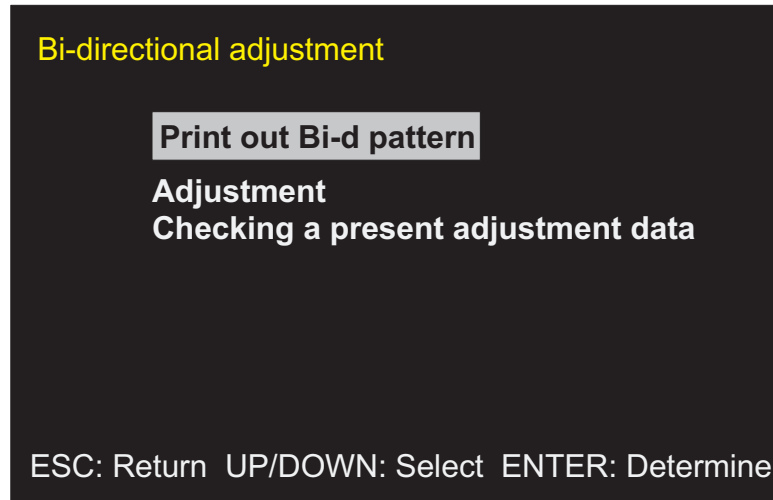
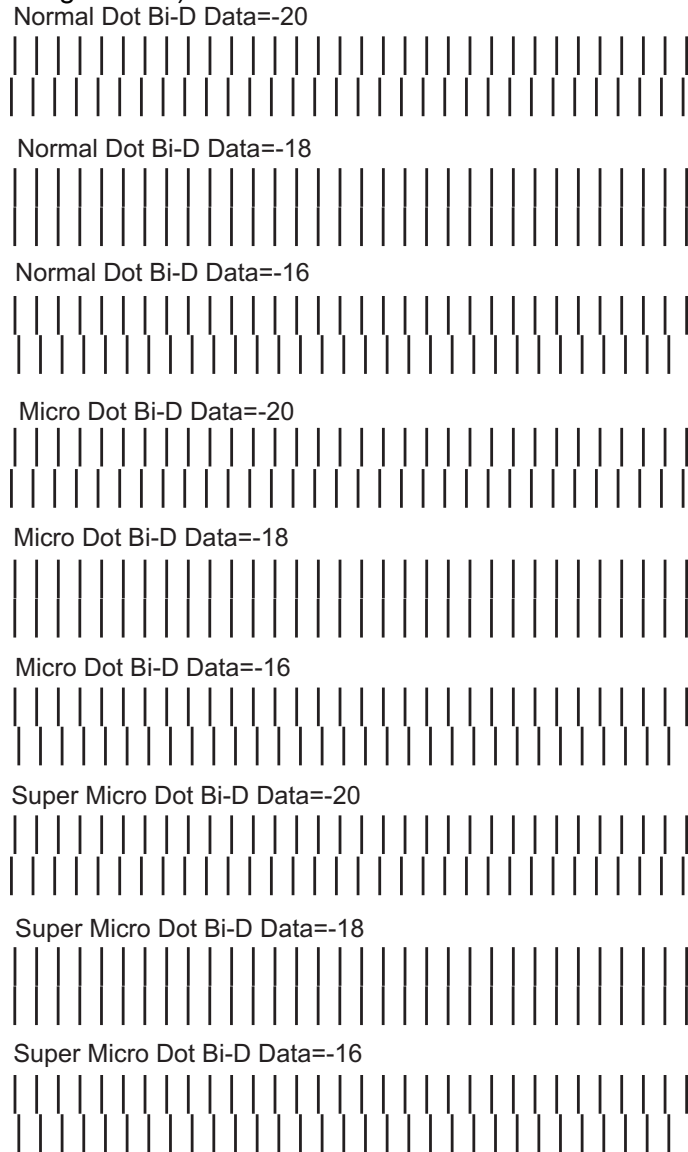

Figure 5-44. Main Menu for Bi-D Adjustment
Figure 5-46. Bi-D Printing Sample(Example)
Step14. Printing sample as it is shown in the figure5-46 is output.
(After printing is completed screen returns to the screen of figure5-44)
Step15. Tendency of changes for the parameter and printing samples is seen as following, by referring to figure5-46.
Step16. Select "Adjustment" on the screen of figure 5-44 and input the parameter value that you think most appropriate to the center values of 3 printing samples for each dot size, referring to figure5-46.
Step17. Select dot type which you wish to adjust, or select all in order, referring to each 3 types of printed results in the figure 5-46.
Step21. Press ESC twice and go back to the screen of figure5-44, then select "Print out Bi-D pattern".